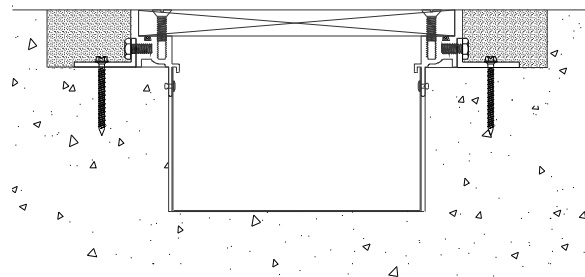

Figure 6
STEP 9. Place grout (by others) continuously between the trench cover system frame and the blockout, see Figure 6. Install the grout in accordance with the grout manufacturer's written instructions.